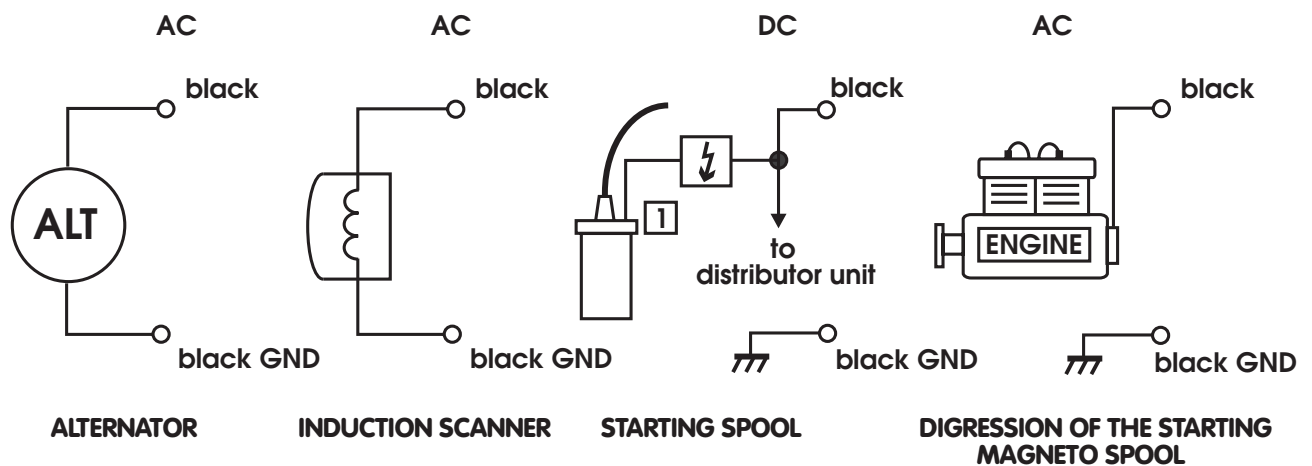

Fig. 4
2.2. A rotation scanner can be an alternator, a digression of the starting magneto spool, extension of the electronic distributor unit or lone induction scanner for example in the electric starting according to figure 4., or other signal in stated voltage range.
According to 2.2 figure 4 find out which kind of scanner type you will use.